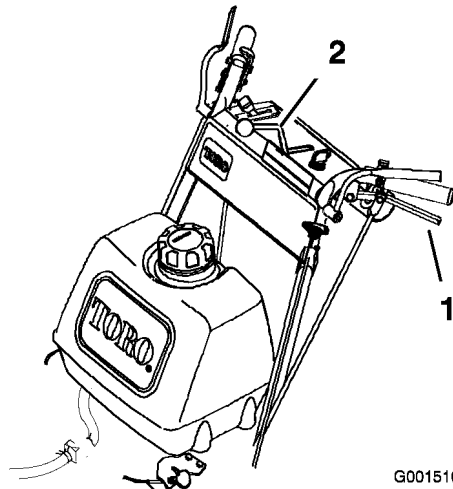

Figure 12
4. Slowly release the drive levers to move forward (Figure 12).
To go straight, release drive levers equally (Figure 12).
To turn, squeeze the drive lever on the side and direction you want to turn (Figure 12).
Slowly squeeze the drive levers back together to move rearward (Figure 12).